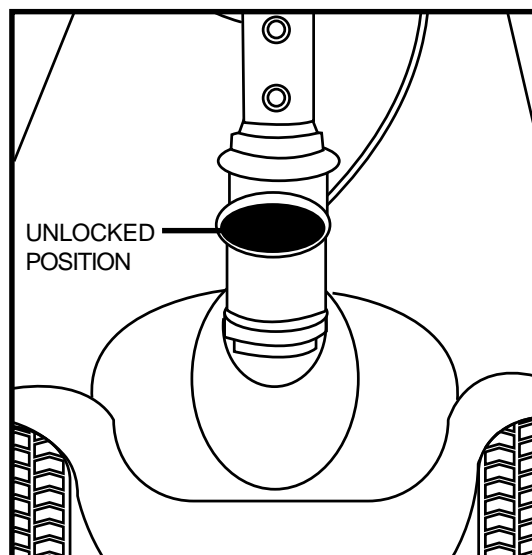

Figure 23. Tiller Lock Knob (Unlocked)
6. Unlock the front wheel by turning the tiller lock knob 90° anticlockwise. **See figure 23.**